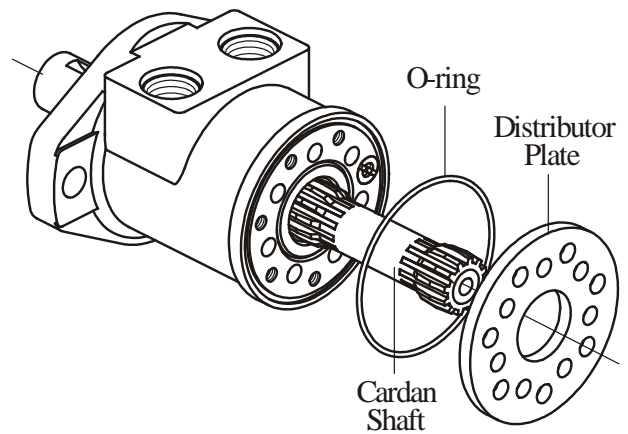

Fig.3
5. Remove cardan shaft (see Figure 3).
12. Lubricate and install O-ring in housing seal groove (see Fig.3).